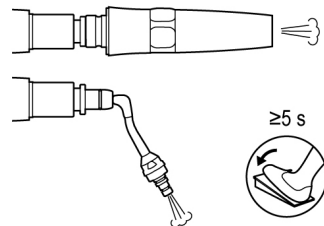

Fig. 20
3. Perform idle running with no water for more than 5 seconds to clear lines (Fig. 20).